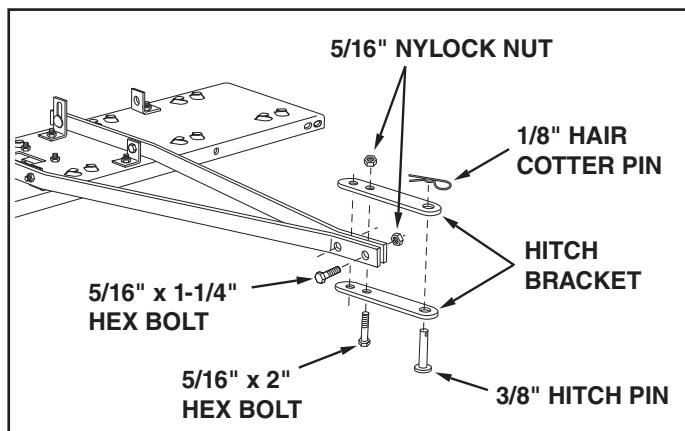

FIGURE 4
7. Assemble the front ends of the hitch mount arms together using two 5/16" x 1-1/4" hex bolts and 5/16" nylock nuts. **Do not tighten yet**. See figure 4.
8. Assemble the hitch brackets to the top and bottom of the hitch mount arms using two 5/16" x 2" hex bolts and 5/16" nylock nuts. **Do not tighten yet**. See figure 4.
9. Assemble the 3/8" hitch pin through the hitch brackets and secure it with a 1/8" hair cotter pin. See figure 4.